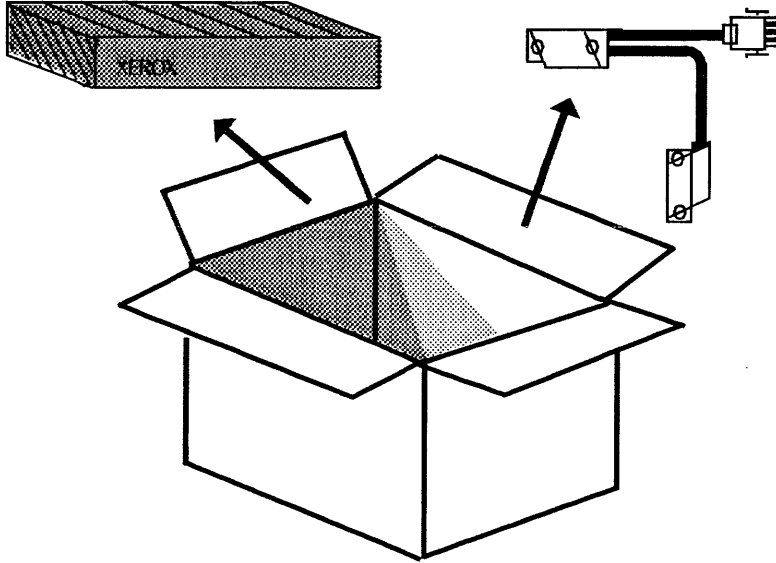

Figure 11. Unpacking the Floppy Disk Drive
1. Unpack the box marked "Floppy Disk Drive." (Figure 11)